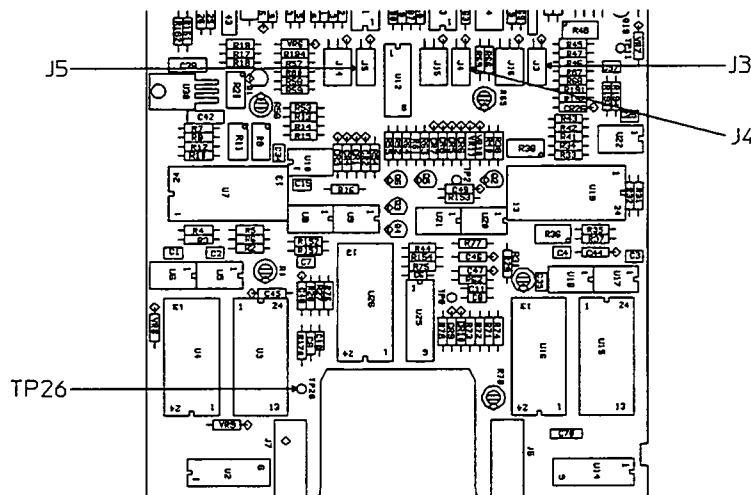

Figure 5-28. A81 Adjustment Location for Auxiliary XYZ Output Check
- b. Refer to figure 5-28. Trigger the scope at A81 TP26 (/RESET) on positive slope, ac coupled.